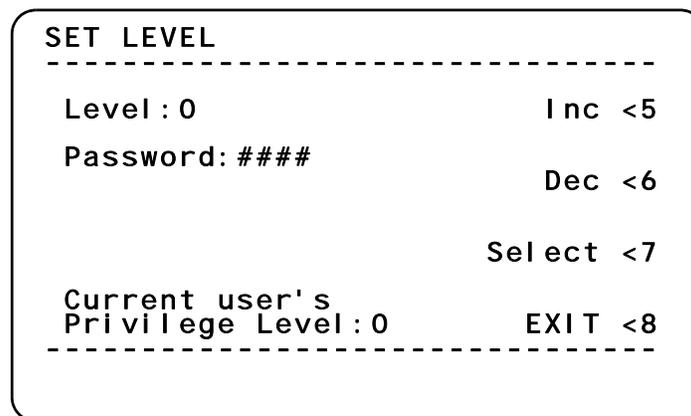

Figure 19 SET LEVEL menu
2. From the SECURITY menu, press the 1> SET LEVEL key to display the SET LEVEL menu (Figure 19). The current security level is displayed at the bottom of the screen.
4. The cursor drops to the first digit of the Password: field, changing the first asterisk (*) to a zero (0). Press the Inc <5 or Dec <6 keys until the first number of the four-digit password appears. Press the Select <7 key to enter the number and repeat until all four numbers of the password have been entered.